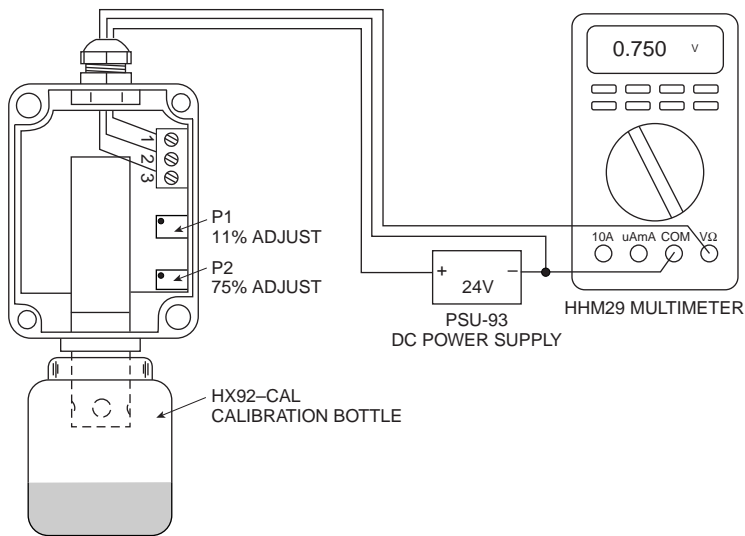

Figure 9: HX92AV Typical Calibration Setup
2. Connect transmitter as shown in Figure 9.